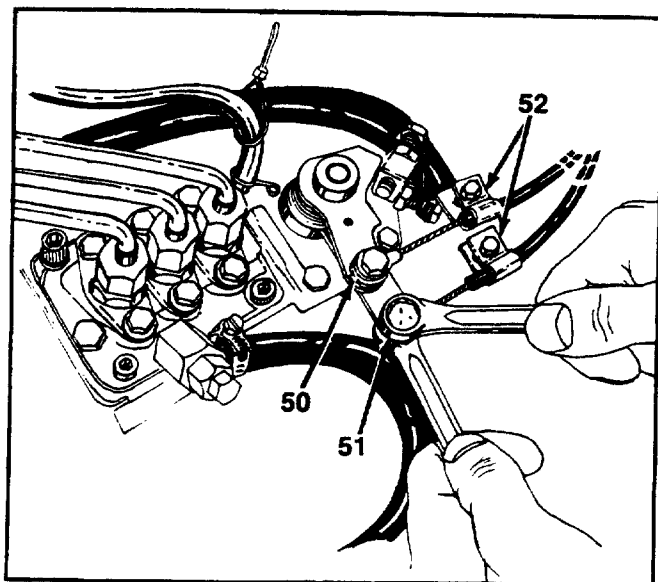

FIGURE 26.
29. Remove the engine stop lever cable and engine speed control lever cable from the levers. Remove the cable hold-down clips. See figure 26.
The top lever (engine stop lever) has a swivel connection, and the attaching nut is at the top of the lever. The lower lever (engine speed control lever) is wire connected and the attaching nut is at the bottom of the lever. See figure 26.